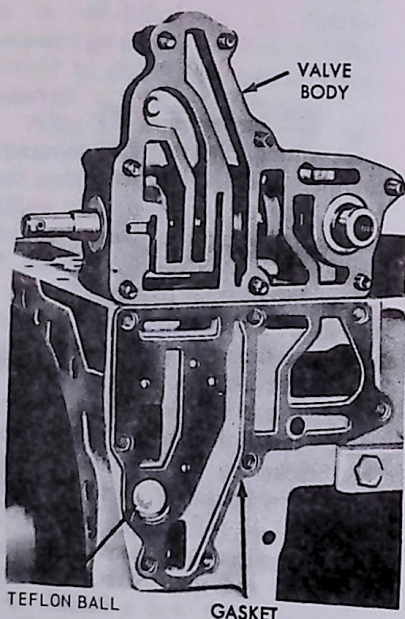

FIG. 15 Valve Retarder Removal and Installation
5. Insert the hydraulic retarder valve teflon ball in the transmission housing, install a new gasket on the transmission housing, and then install the hydraulic retarder control valve body assembly (Fig. 15). Install the mounting bolts. Torque the long bolts to 14-17 ft-lbs and the short bolts to 15-18 ft-lbs.